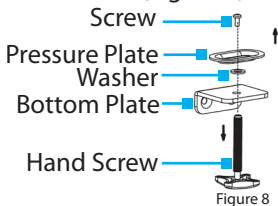

Figure 8
2. Remove the **Screw** from the **Pressure Plate**, using a **Phillips Head Screwdriver**. (Figure 8)